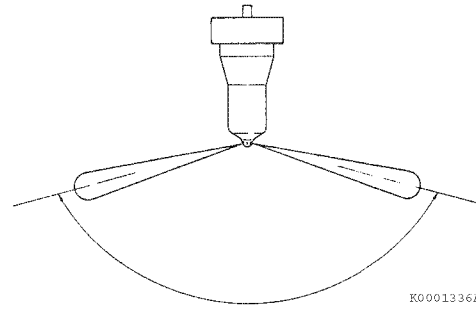
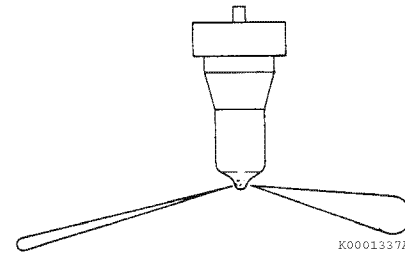

Figure 7-45
Figure 7-46
6. Pump the operating lever more rapidly to repeatedly “pop” the injector and observe the spray pattern. The pattern should be a very fine uniform spray (**Figure 7-45**). If a dripping or an uneven pattern is seen (**Figure 7-46**), service or replace the injector.